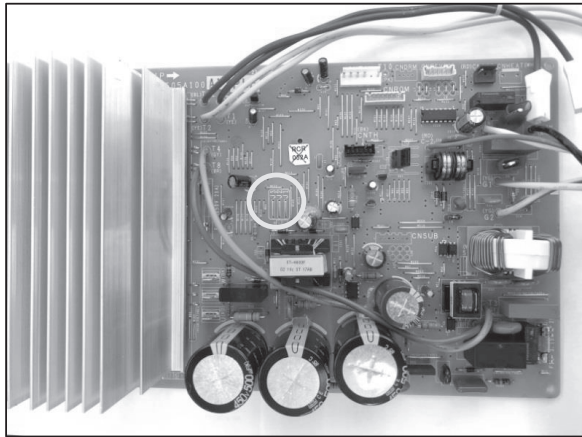

Fig.8 Setting of jumper on PCB
15) Make sure setting of jumper on new PCB is the same with old PCB's setting. (Fig.8)